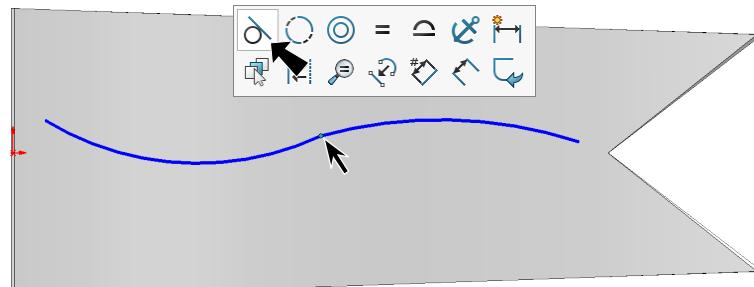

Fig. 26
Step 7. Click endpoint between arcs and click **Make Tangent**  on the context toolbar, Fig. 26.